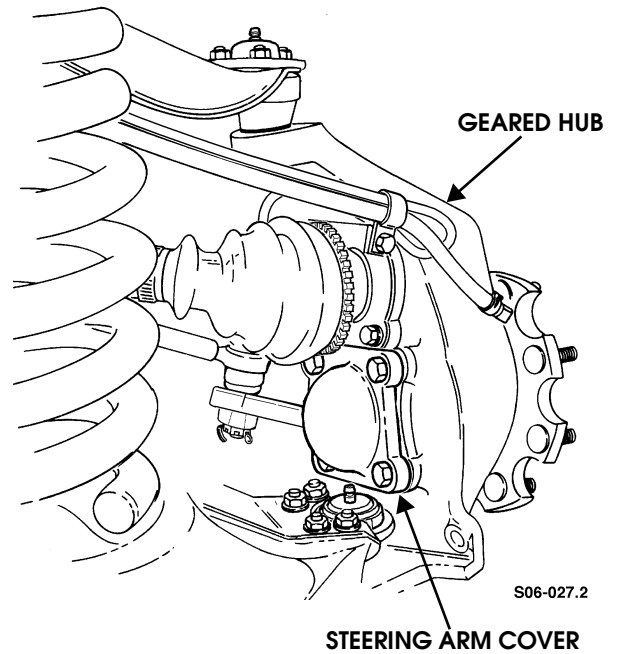

Figure 9-36: Geared Hub Steering Arm Cover Removal
3. Remove four bolts, washers, and steering arm cover from geared hub (Figure 9-36).